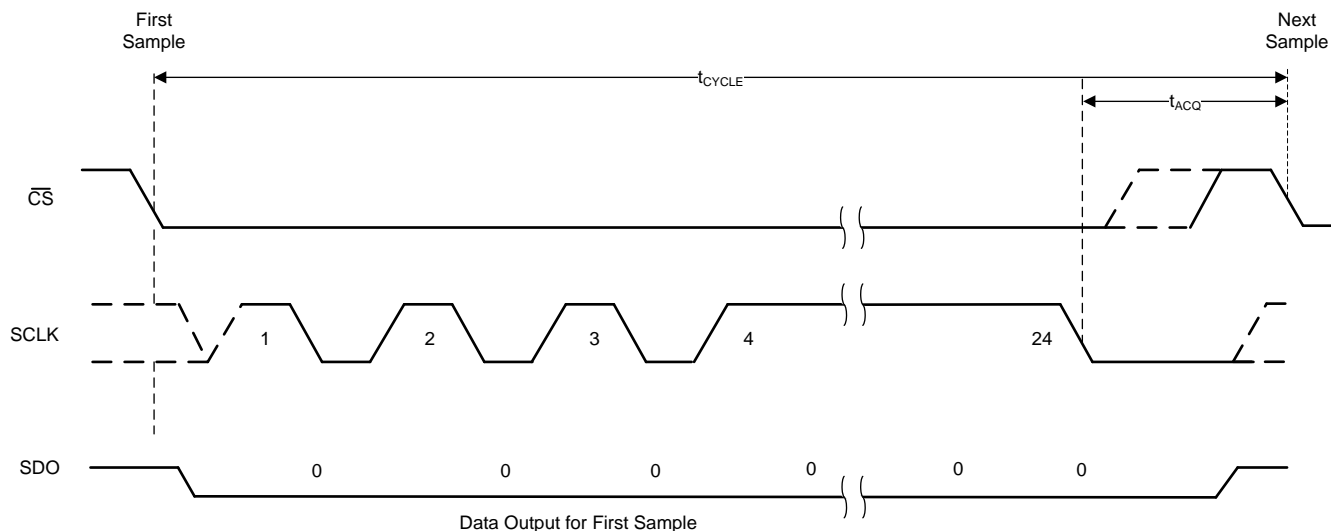
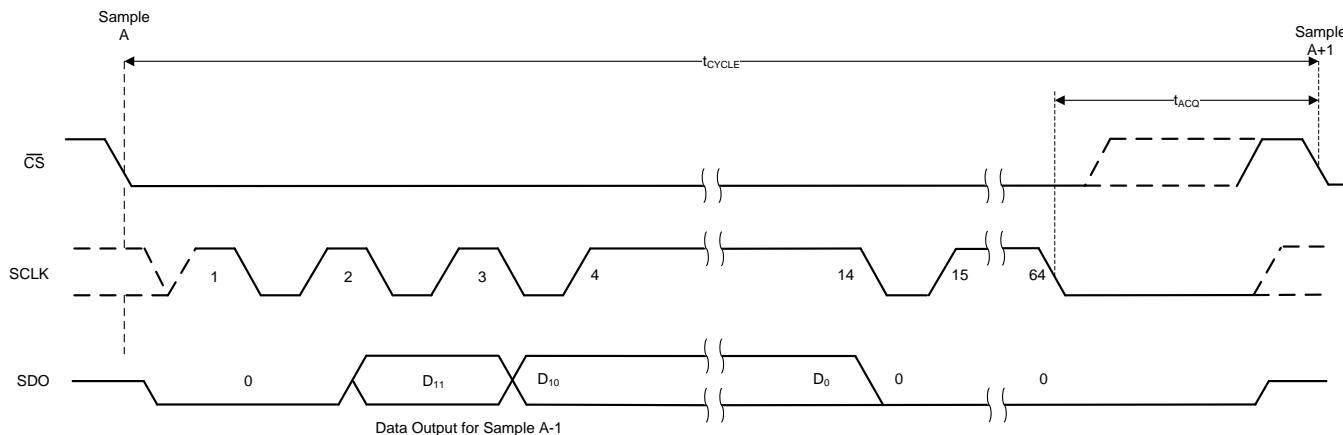

Figure 38. Timing for Offset Calibration on Power-Up
Figure 39. Timing for Offset Calibration During Normal Operation
The host controller must provide a serial transfer frame as described in Figure 38 or in Figure 39 to enter the OFFCAL state.
If the host controller starts the offset calibration process but then pulls the \overline{CS} pin high before providing 24 SCLKs, then the offset calibration process is aborted and the device enters the ACQ state. Figure 38 and Table 3 provide the timing for offset calibration on power-up.
(1) In addition to the timing specifications of Figure 38 and Table 3, the timing specifications described in Figure 2 and the Timing Requirements table are also applicable for offset calibration on power-up.
If the host controller provides more than 15 SCLKs but pulls the \overline{CS} high before providing 64 SCLKs, then the offset calibration process is aborted and the device enters the ACQ state. Figure 39 and Table 4 provide the timing for offset calibration during normal operation.
- (1) In addition to the timing specifications of Figure 39 and Table 4, the timing specifications described in Figure 2 and the Timing Requirements table are also applicable for offset calibration during normal operation.